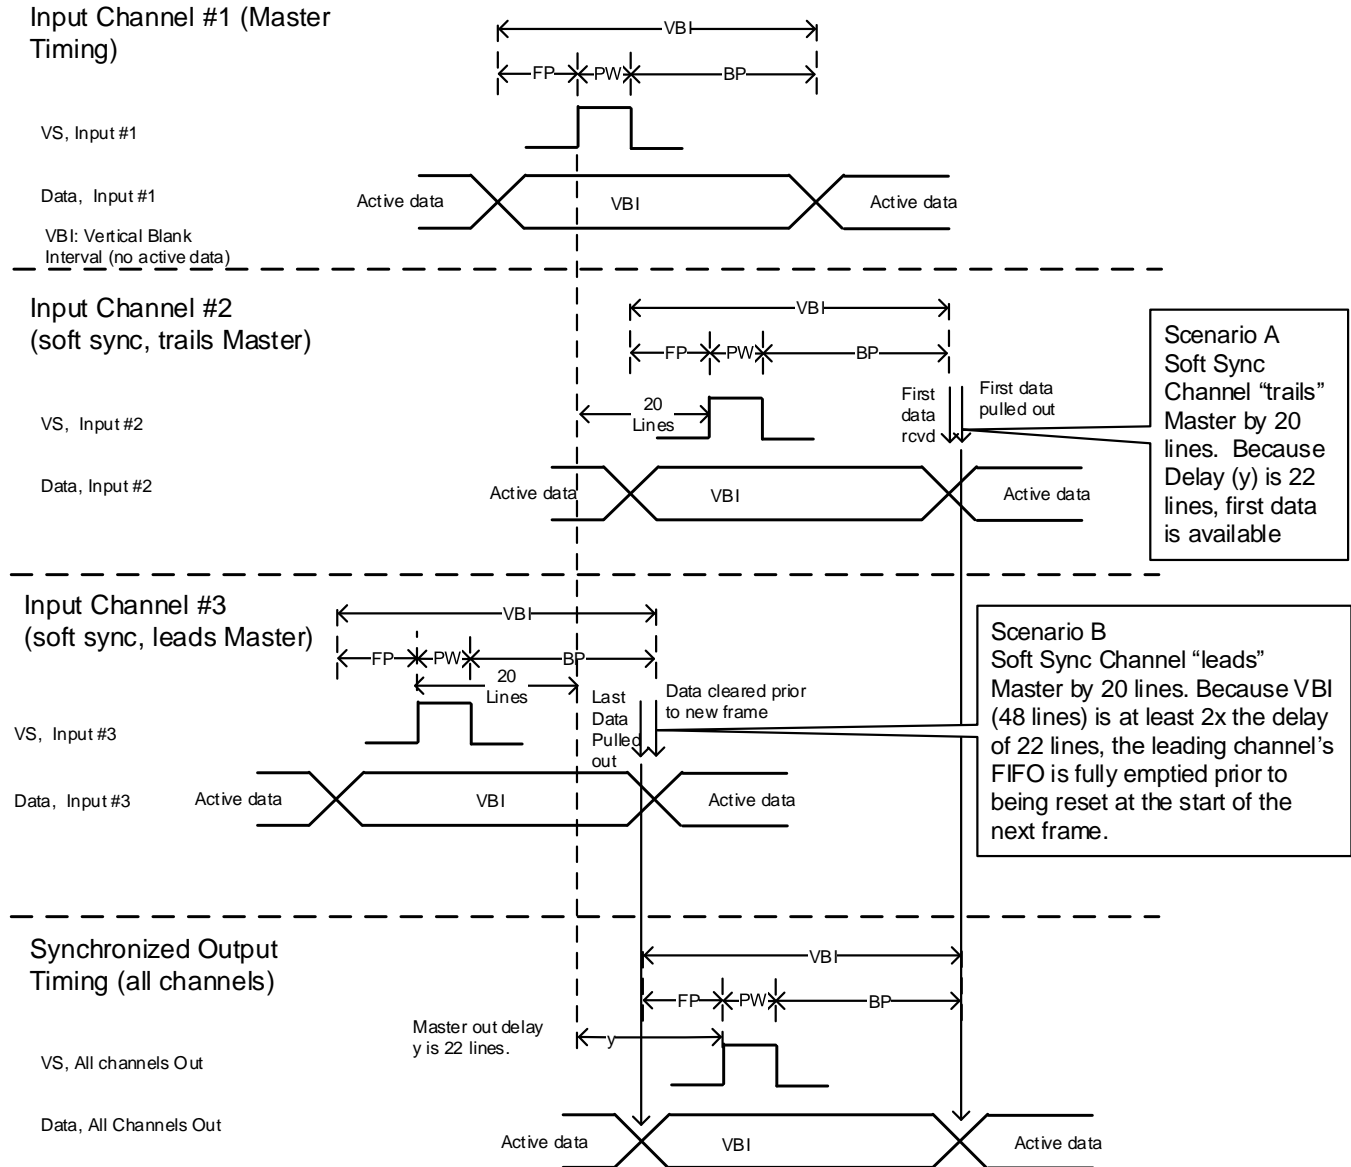

Figure 2 Timing Constraints for Sync4K
Scenario A: Because soft-synced channels tend to vary $\pm x$ lines from the master timing, the programmed line delay y must be greater than x so that the new pixel data in a “trailing” slave channel has arrived at FIFO inputs prior to outputting that pixel data from the FIFO. See “Scenario A” in Figure 2.
Scenario B: The Vertical Blanking Interval (VBI) must be greater than $2y$. This allows sufficient time for the “leading” slave channel's pixel data to be fully emptied of the previous frame, prior to clearing the FIFO at the start of a new incoming frame. See “Scenario B” in Figure 2.
Thus up to 52 lines can be stored. In Figure 2, a synchronizing channel that leads the master by 20 lines and then has an additional 22 lines of delay, will need 42 lines of storage. This is within the constraint of 52 lines.
Design item 2: In Figure 2, we see that the VBI (48 lines) is long enough ($> 2y$) such that all data from the previous frame is pulled out prior to the clearing function at the start of a new frame. Standard UHD has a VBI = 90 lines, more than sufficient to meet this constraint.